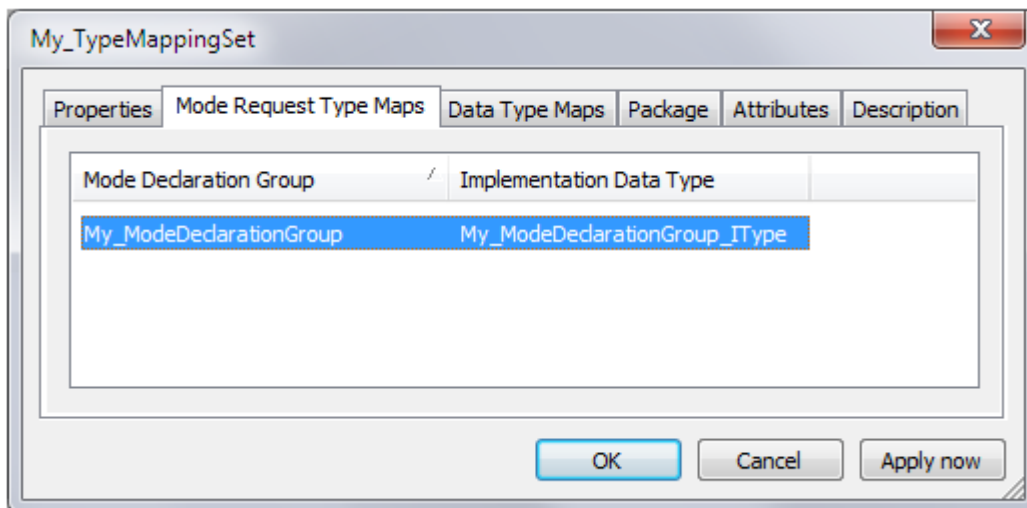

Figure 4-50 Mode declaration group mapping
- The mode declaration group and the implementation data type are mapped in a ModeRequestTypeMap (Figure 4-50).